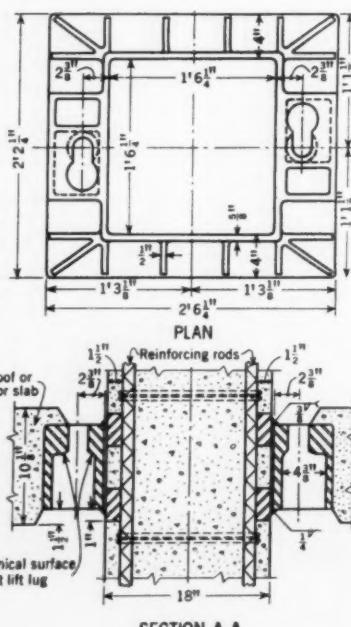

FIG. 4. Lifting collars carry slab up precast reinforced concrete columns. Note size and locations of welds.
The age-strength relationship of three trial mixes of mass interior concrete for Wilson Lock is given in Fig. 4. Details of the three mixes are given
After the columns were erected, the ground floor was poured around them; then reinforcing steel was placed on it for the second-floor slab. To transfer the future slab load into the columns, collars were incorporated in the slab. These were of cast steel ASTM A 27, grade 60-30, with keyhole lugs by which the lifting rods would later raise the slab. As shown in Fig. 4, castings were made with a  $\frac{1}{8}$ -in. clearance around the columns. The keyhole lugs allowed the lifting-rod head to be dropped into the large opening and then shifted laterally to bear on the conical surface for lifting.
U. S. Lift Slab Corporation was used and will not be described in detail. When the roof slab is in its final position, welders weld the under side of the slab castings to the collar bands on the columns. See Fig. 4 for size and locations of welds. At this point, the columns are under their severest loading because their unsupported length is at its maximum. They were analyzed on the basis of a cracked section with an arbitrary 2 percent of the axial load applied as a lateral force at the top, and buckling with base considered as fixed and top end free to move. The cracked section was used because it was felt that, when the columns were lifted from the form, bending cracks might occur. However, no discernible cracks were found in actual construction.